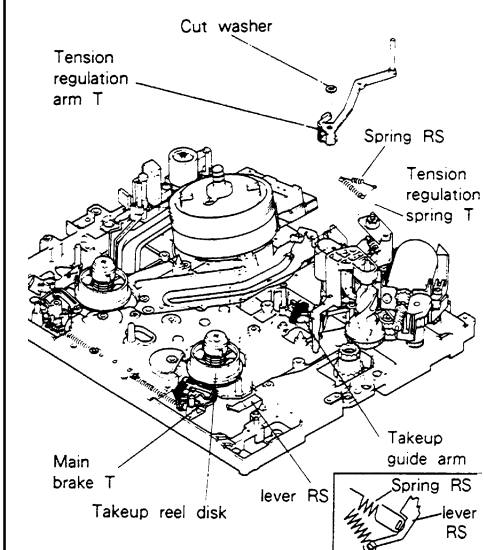

Fig. 2-11-1
2-11-1 Removal (Refer to Fig. 2-11-1.)
- N. Fasten the tension regulation spring T and the spring RS to the tension regulation arm T and the lever RS from the top side of the deck. (Refer to Fig. 2-11-1.)